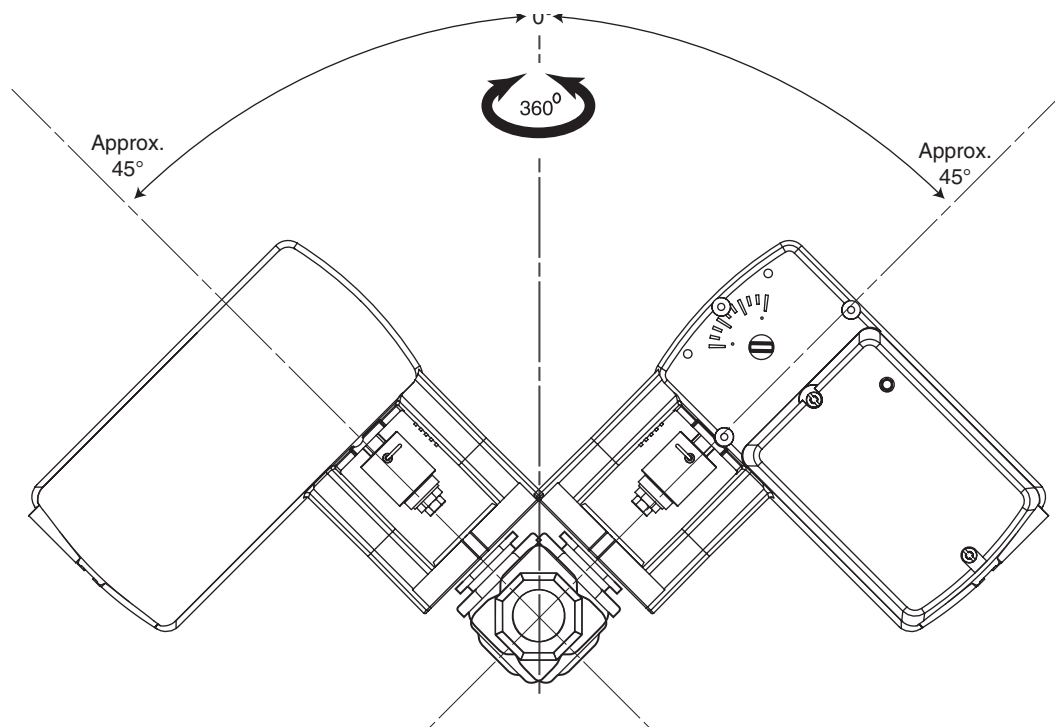

Figure-12 Acceptable Mounting Orientation for Steam Applications
- Mount the linear actuator directly on the valve in locations that clear the maximum dimensions of the actuator case (see Figure-12).